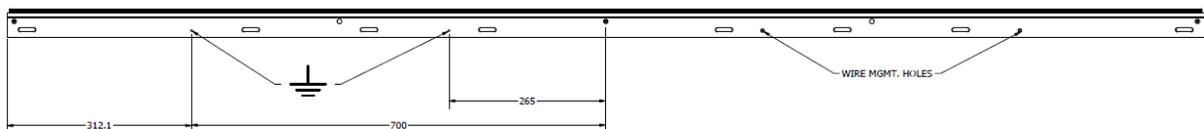

Figure 11: Grounding Hole & Wire Management Hole Detail from Frame Center
- Utilize marked grounding holes (see Figure 11) in frame. Where using common grounding hardware (lugs, nuts, bolts, star washers, split-ring lock washers, flat washers and the like) to attach grounding/bonding device, the attachment must be in conformance with the grounding device manufacturer's instructions. Grounding/ bonding devices must meet the IEC/UL 61730-2 the pass/fail criteria of a 100 mΩ resistance.